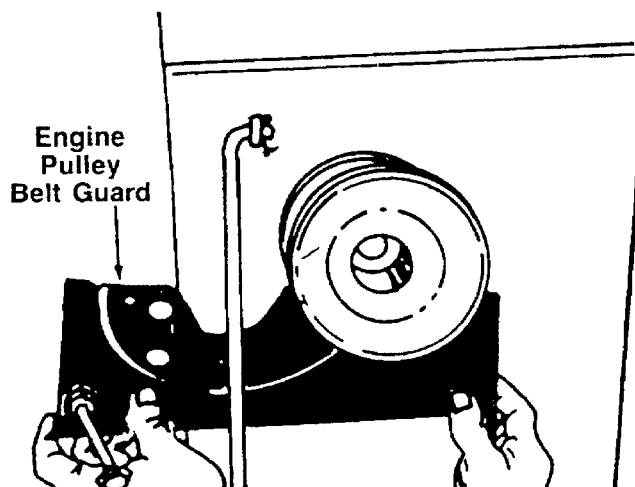

FIGURE 25.
- Remove the engine pulley belt guard by slipping it back and to the right. See figure 25.